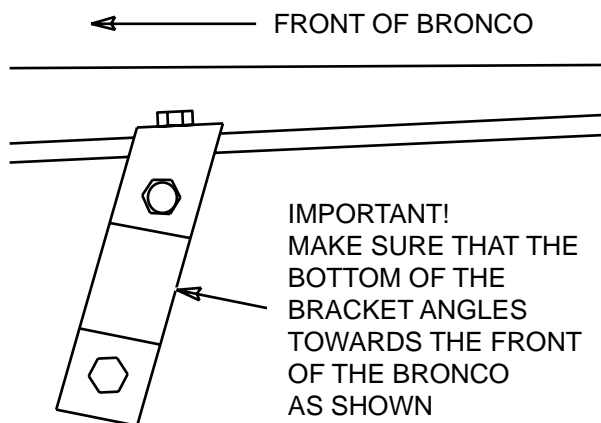

Figure 1
3. Position the large (fender) bracket over the fender mounting hole and secure it finger tight with one of the bolts removed in step 2, making sure the lower leg of the bracket angles towards the front of the Bronco. See Figure 1.